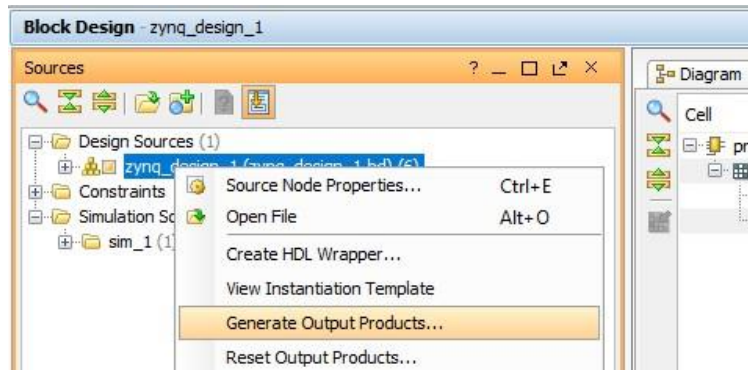

Figure 18: Generating output products.
1. In the Sources window, right-click the top-level subsystem design and select **Generate Output Products** (Figure 18). This generates the source files for the IP used in the block diagram and the relevant constraints file.